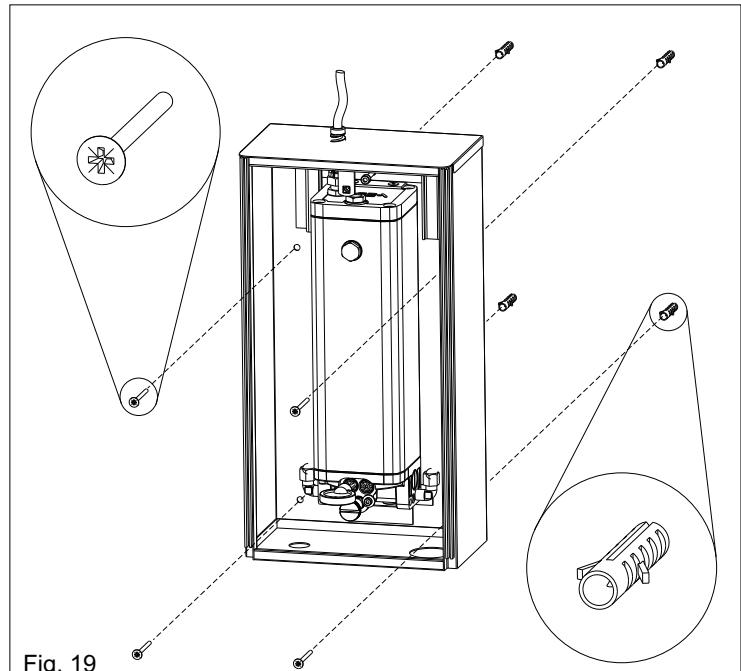

Fig. 19
5. INSTALLATION CAISSE UNITE HYDRAULIQUE MURALE (Fig.19)